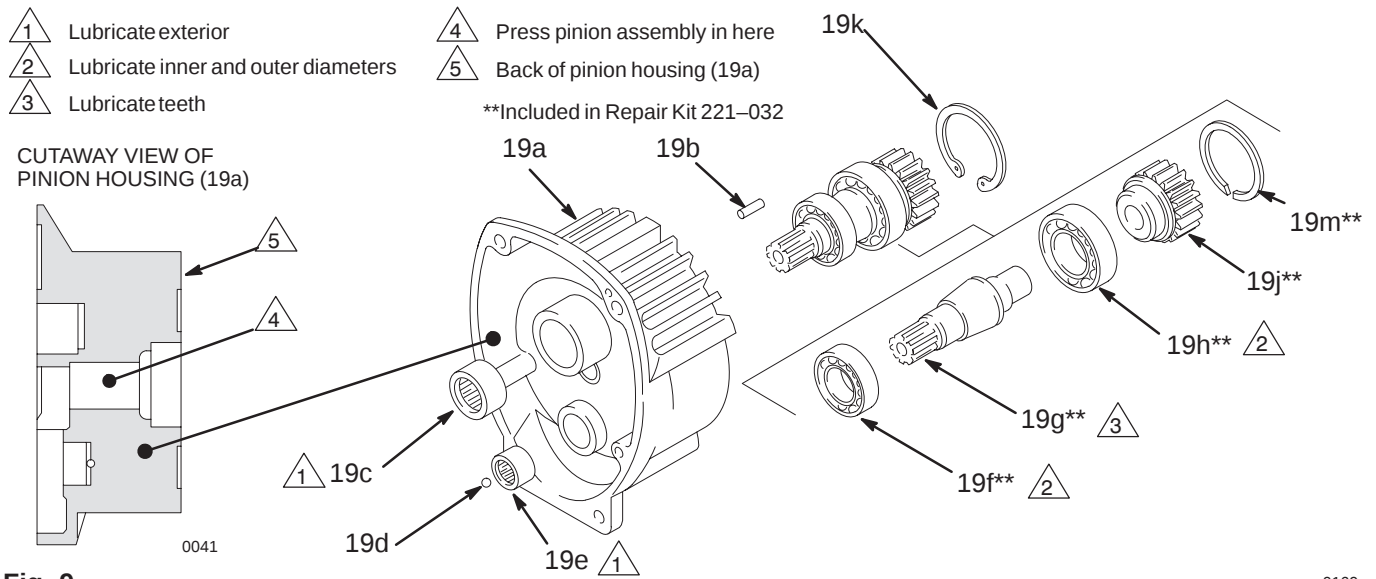

Fig. 9
4. Pull the armature (4a) off the hub (19j) of the pinion housing. Also see Fig. 9.
NOTE: Refer to Fig. 9 except where noted.
5. Apply lubricant to the parts as shown in Fig. 9.